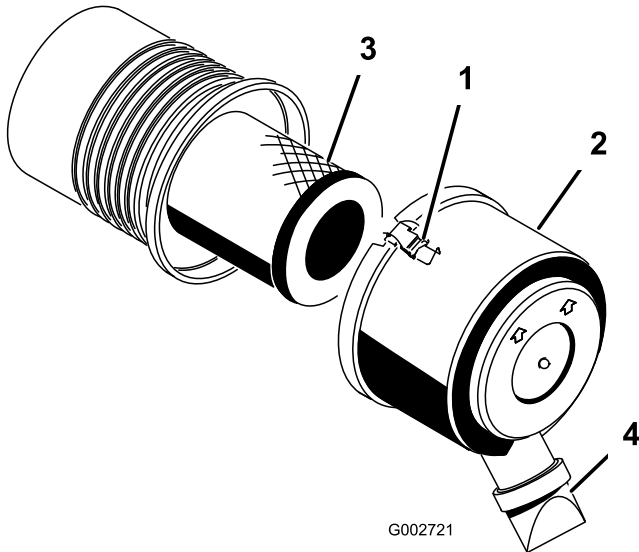

Figure 27
- Release the latches securing the air cleaner cover to the air cleaner body (Figure 27).